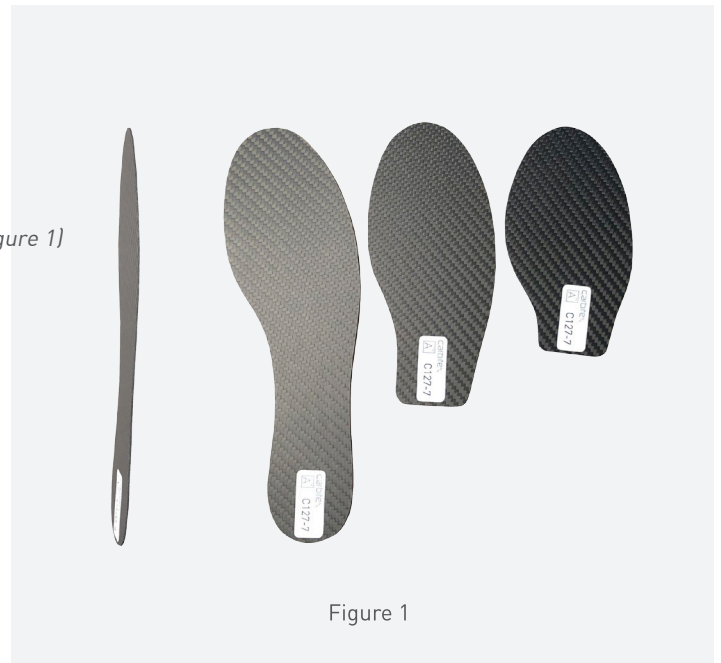

Figure 1
2. Preferred Characteristics for optimum AFX/DFX benefits are (Figure 1)